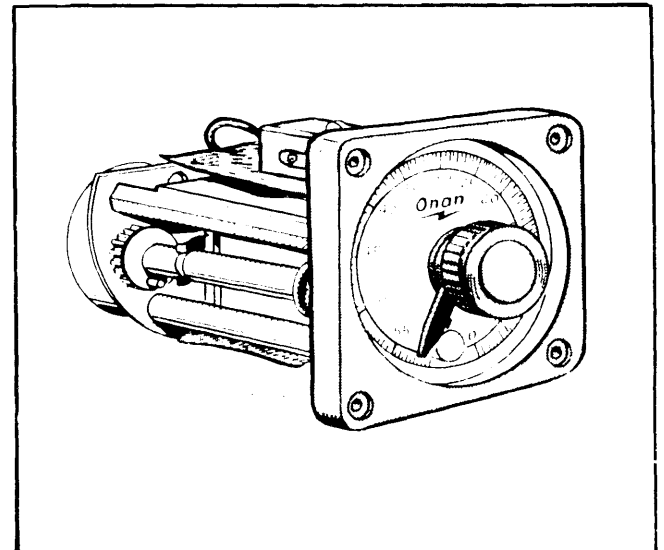

FIG. 19
2. The Hagen Synchronous Clock Delay-Relay (Fig. 19). Delay occurs on energization and is adjustable from 2 to 60-minutes.
**Hogen Time Delay Relay Adjustment:** This synchronous motor-driven time delay-relay (Fig. 19) has a dial on its face to aid in setting the correct time delay. A black pointer indicates the pre-set time delay; a red pointer indicates the time delay left in each operation. To set the relay, simply turn the adjusting knob in the center of the dial. Time delay can be changed with power *on* or *off*.